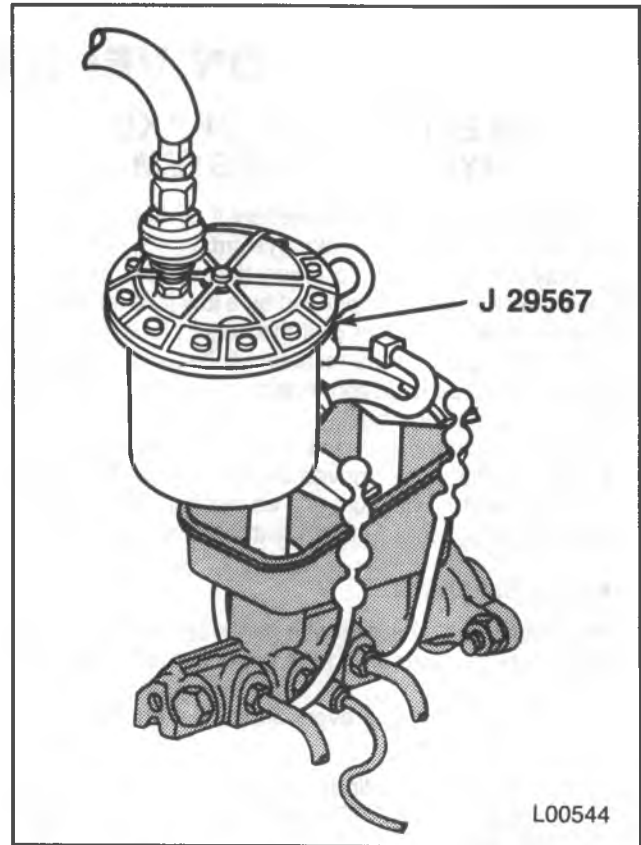

Figure 2 — Plastic Reservoir Bleeder Adapter
- Install the correct bleeder adapter (figures 2 and 3).